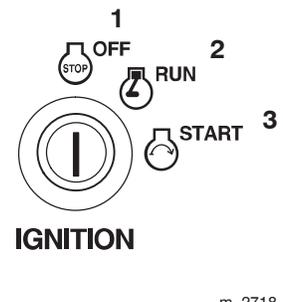

Figure 12
3. Turn the ignition key to off (Fig. 12).